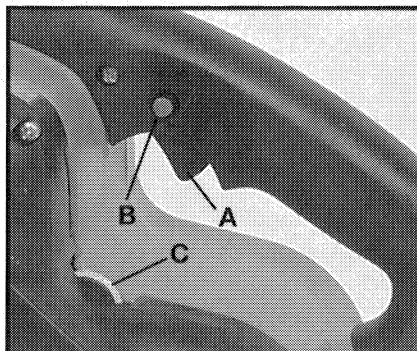

Fig. 2
2. Squeeze trigger switch (A) Fig. 2, to start motor. Release trigger to stop motor.
3. **LOCK BUTTON** – A lock button (B) is provided to keep motor running without holding the trigger switch ON.
Speed is adjusted by turning thumbwheel, (C) Fig. 2. Thumbwheel position #1 provides the slowest operating speed (850 SFM) and position #6 the fastest (1300 SFM). Speed may be changed while motor is running or while it is stopped.